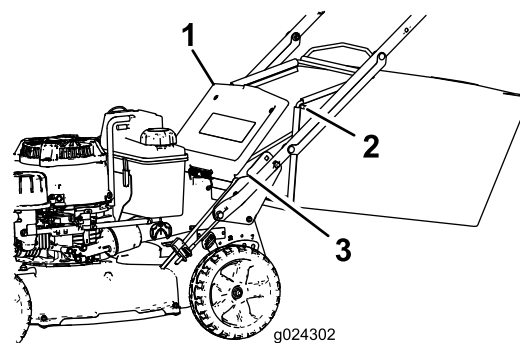

Figure 18
2. Raise and hold up the rear door (Figure 18).
4. Install the bag-rod ends into the notches at the base of the handle, and rock the bag back and forth to ensure that the bag-rod ends are seated at the bottom of both notches (Figure 18).
3. Remove the bag rod on the grass bag from the notches at the base of the handle (Figure 18).